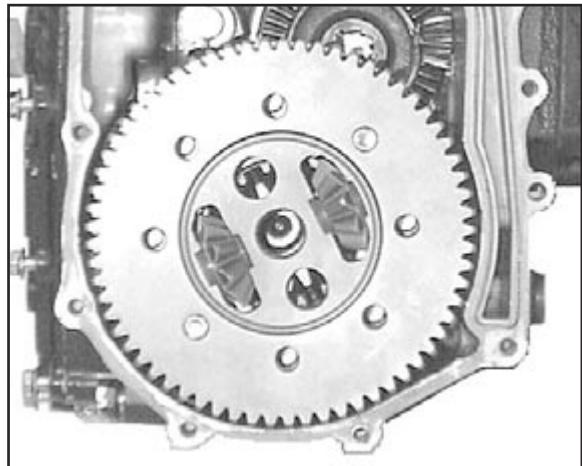

Fig. 65, Final Pinion Gear
12. Remove final pinion shaft assembly. (Fig. 65)